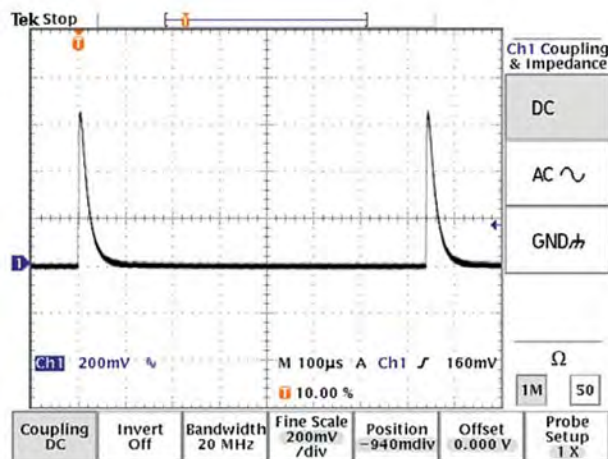

Figure 1
7. If you know your expected laser pulse repetition rate, set the scope time base to show 2 pulses on the screen. This helps set the trigger and allows observation of the true “baseline” of the pulse. For example, for a laser running at 10 pps, set the scope time base to 20 msec/division. Once proper triggering occurs, use the vertical adjust to set the baseline of the EnergyMax voltage pulse to coincide with a horizontal grid line (see Figure 1). This setting becomes the zero for the peak voltage reading.